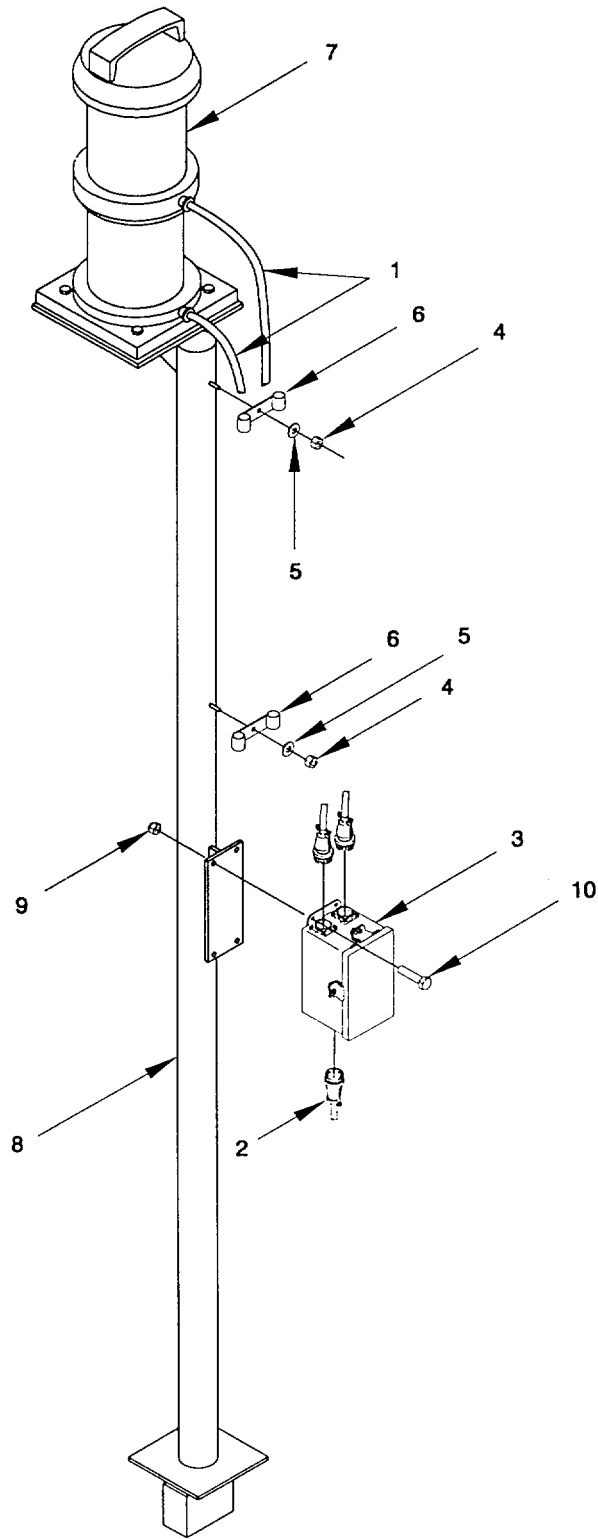
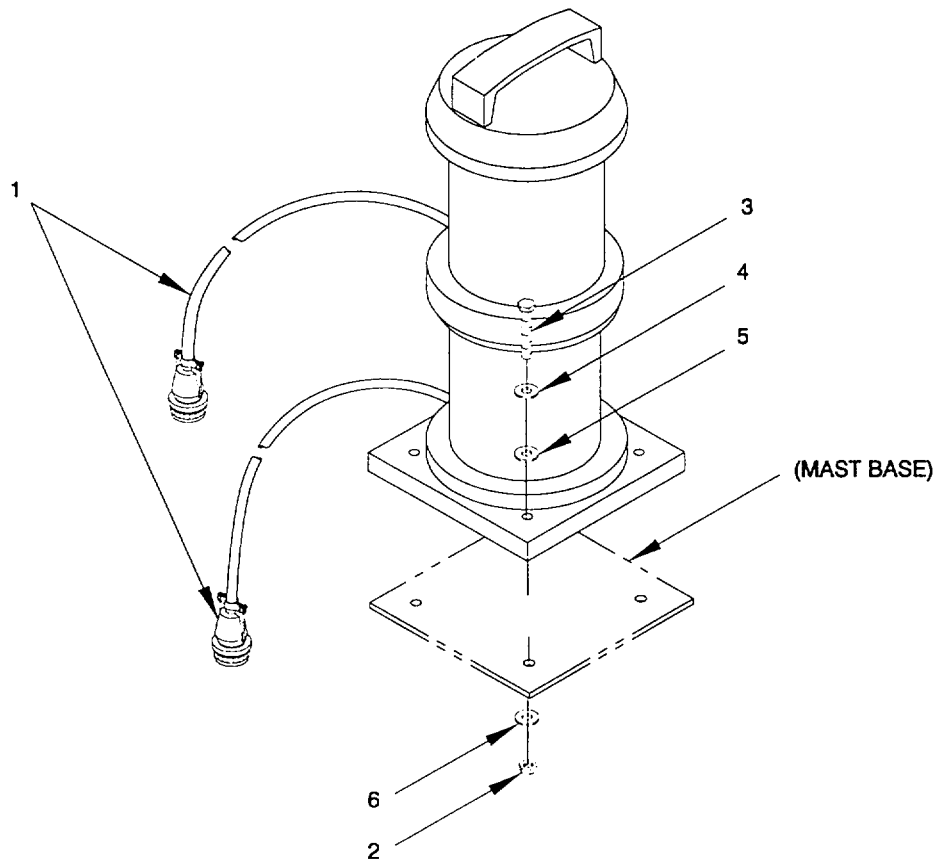

Figure 2-168. Cables and Enclosure Assembly, Remove/Install.
Figure 2-169. Stern Light Remove/Install.
(1) Cables and Enclosure Assembly (figure 2-168).
(2) Stern Light (figure 2-169)
(1) Cables and Enclosure Assembly. (figure 2-168)
- (a) Install enclosure assembly (3) and secure with capscrews (10) and hex nuts (9) to the mast (8).
- (b) Connect and secure pigtails (1) and portable cable (2) to the enclosure assembly (3).
- (c) Install clamps (6), flat washers (5), and hex nuts (4) to secure the pigtails (1) between the stern light (7) and the enclosure assembly (3) to the mast (8).
- (a) Install stern light onto mast by placing lockwashers (6), plastic washers (5), lined up with holes, between light and mast. Install capscrews (3), flat washers (4). Secure by tightening hex nuts (2) to no more than maximum torque of 35 ft.-lbs..
- (b) Reconnect cable inserts (1).